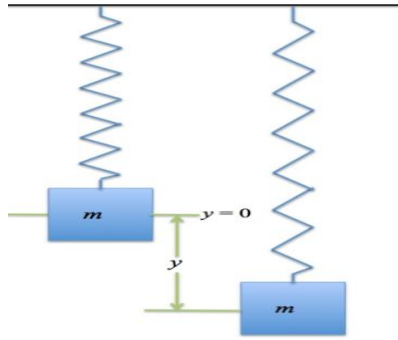

Figure 2: A one-dimensional simple harmonic oscillator.
In equilibrium condition the linear restoring force (F) in magnitude is equal to the weight 'mg' of the hanging mass, shown in figure 2.